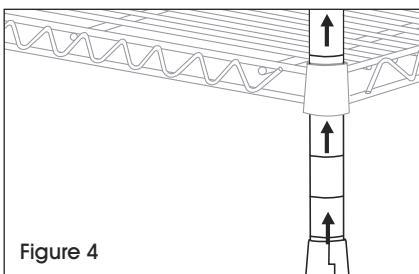

Figure 4
2. Slide posts through underside of shelf until shelf slides firmly over supports. (See Figure 4)